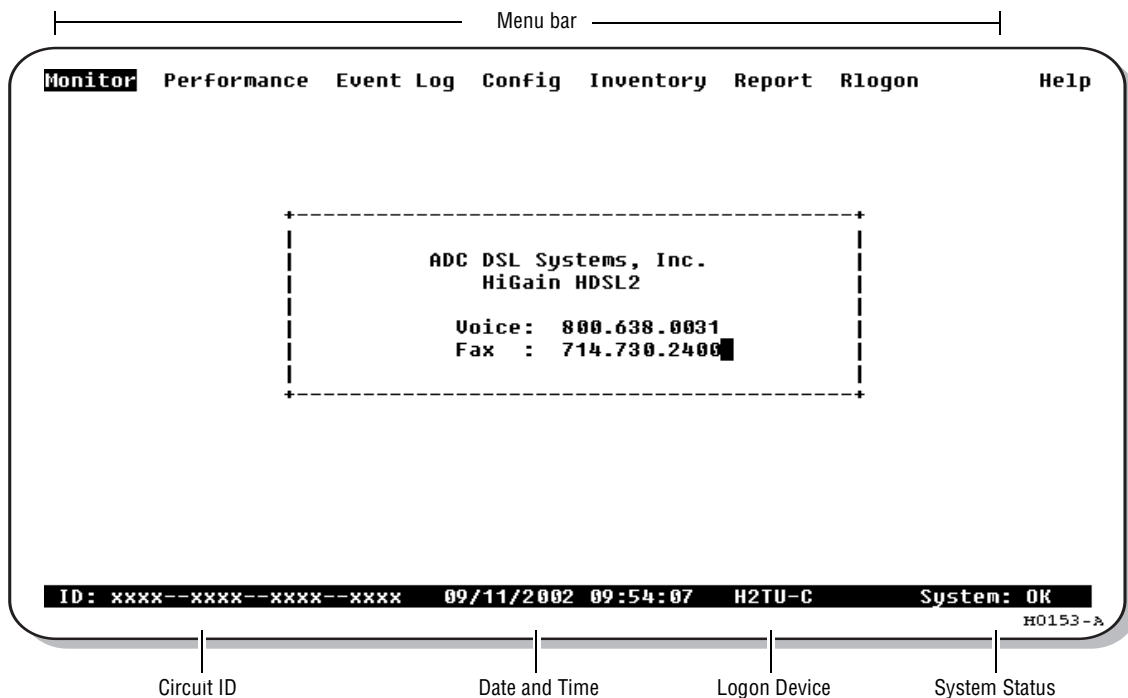

Figure 3. Logon Screen
- Use a maintenance terminal (ASCII terminal or a PC running terminal emulation software) connected to the H2TU-C craft port (or to an HMU craft port) to access the status, history, inventory, and provisioning screens (see Figure 3 on page 11).
To select a menu from the logon screen (Figure 3), use the **←** **→** arrow keys, then press **ENTER**.